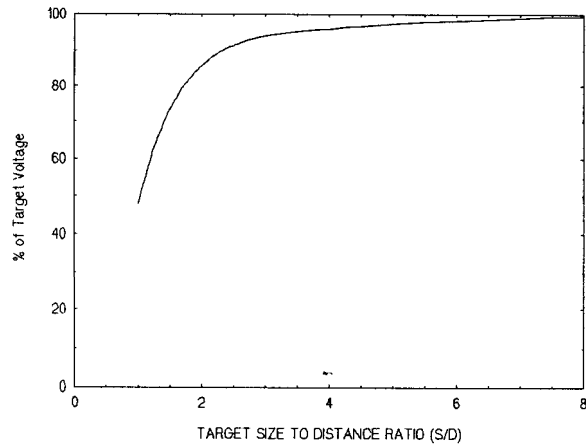

Figure 2
Figure 2 illustrates that for a (square) target, the length of whose sides (S) are less than four or more times the operating distance, significantly less than 100% of the target voltage is within the field of view of the instrument's aperture. For best accuracy, the size of the target should be large relative to the measurement distance.